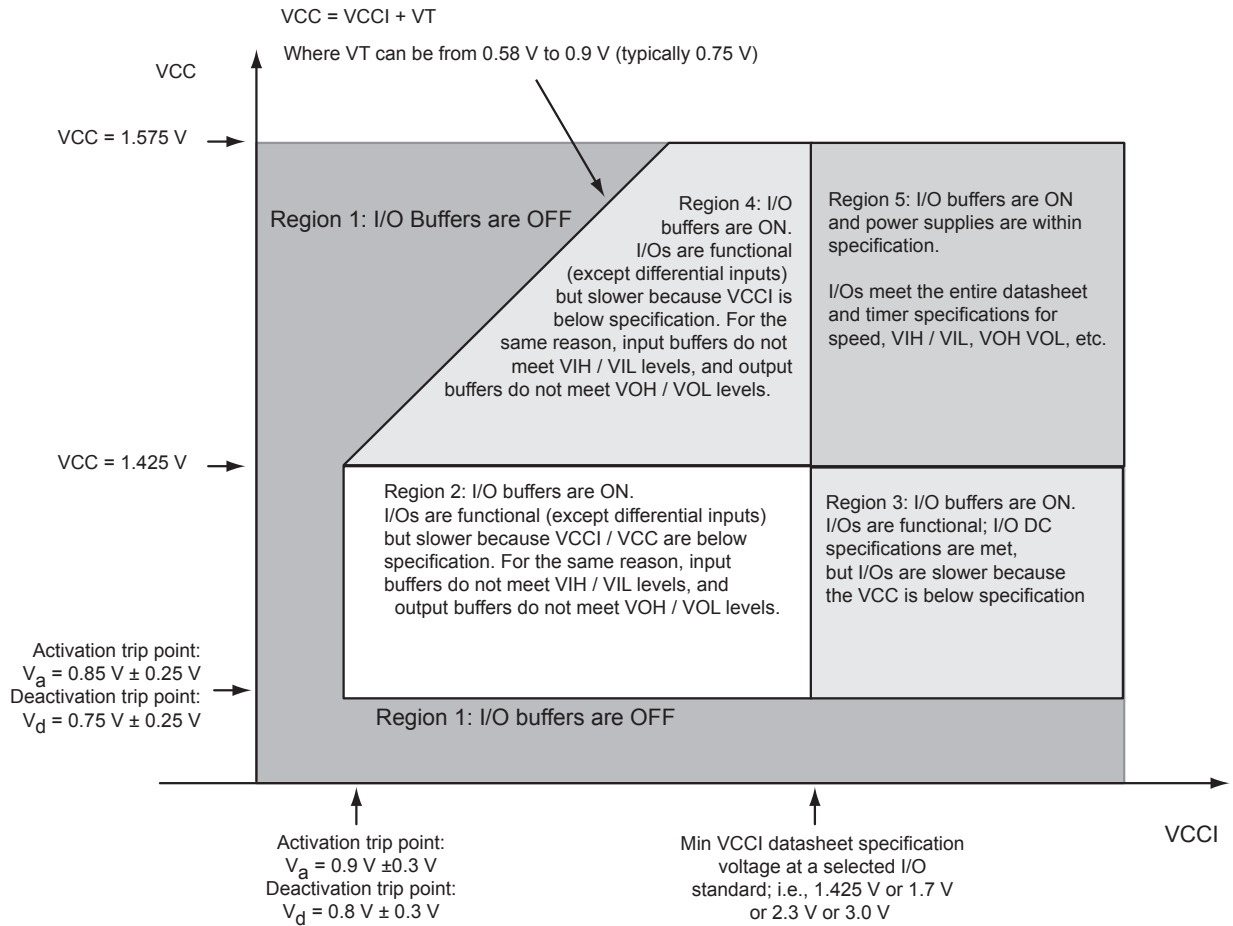

Figure 3-1 • I/O State as a Function of VCCI and VCC Voltage Levels
Sophisticated power-up management circuitry is designed into every Fusion device. These circuits ensure easy transition from the powered off state to the powered up state of the device. The many different supplies can power up in any sequence with minimized current spikes or surges. In addition, the I/O will be in a known state through the power-up sequence. The basic principle is shown in Figure 3-1 on page 3-7.
1. VCC and VCCI are above the minimum specified trip points (Figure 3-1).
Actel recommends using monotonic power supplies or voltage regulators to ensure proper power-up behavior. Power ramp-up should be monotonic at least until VCC and VCCPLX exceed brownout activation levels. The VCC activation level is specified as 1.1 V worst-case (see Figure 3-1 on page 3-7 for more details).